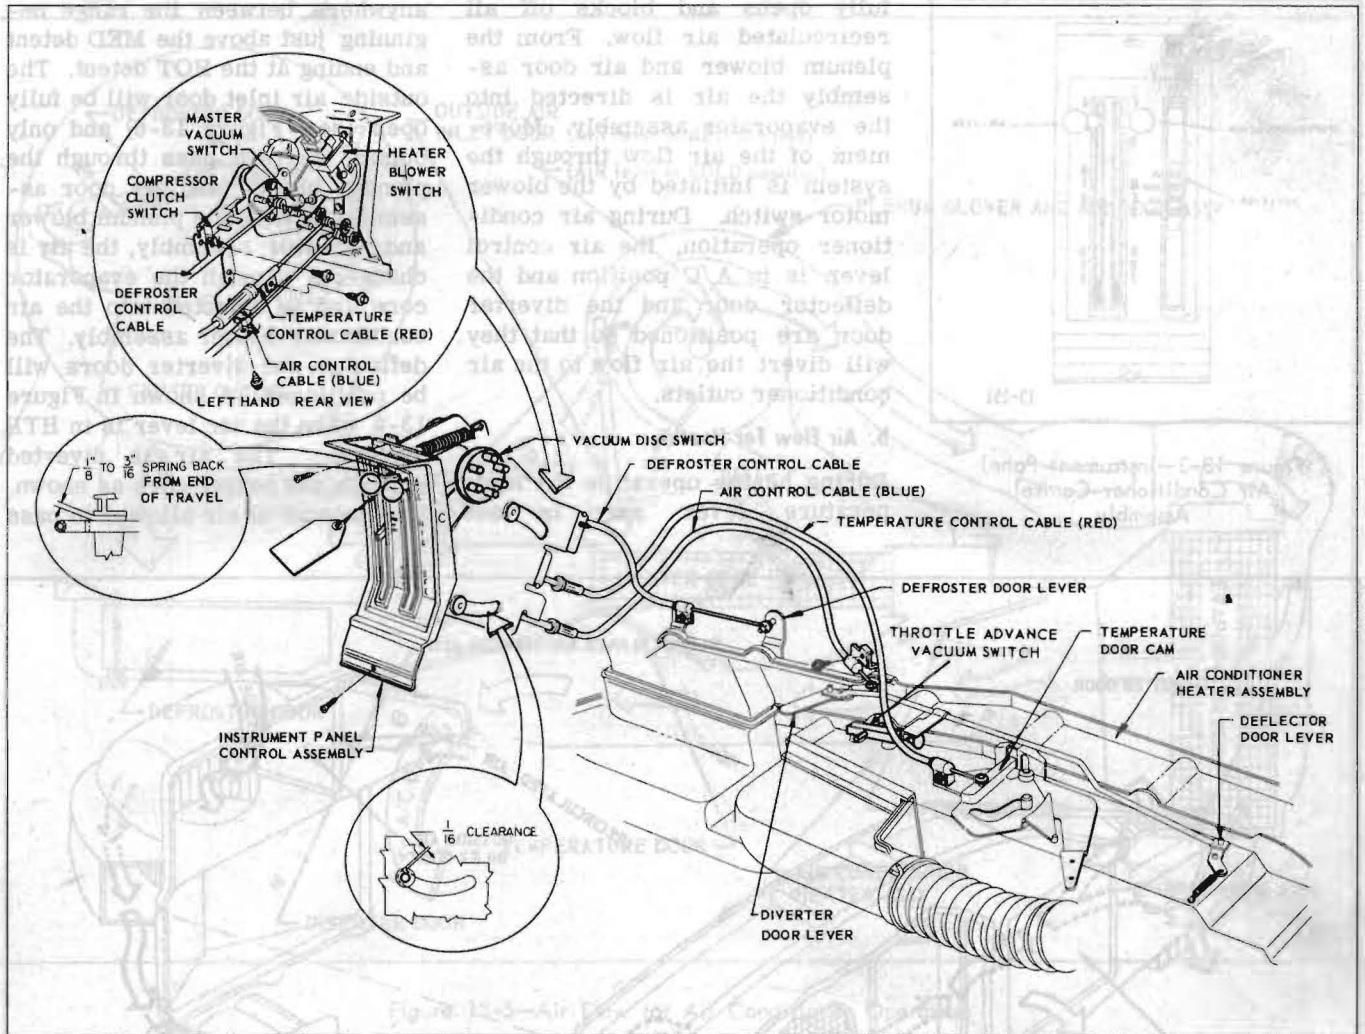

Figure 13-2—Control Wire Installation (43-44000 Series)
To adjust, position air control lever in A/C position and rotate the control wire adjuster nut until: (1) approximately 1/8 to 3/16 inch control lever spring-back is obtained when the air control lever is in A/C position, (2) approximately 1/16 inch clearance exists between surface of cable pin and edge of slot in instrument panel control assembly (see Figure 13-2).
To adjust master switch (see Figure 13-2) on instrument panel control assembly proceed as follows:
To adjust the compressor clutch switch located on the instrument panel control assembly (see Figure 13-2) proceed as follows: